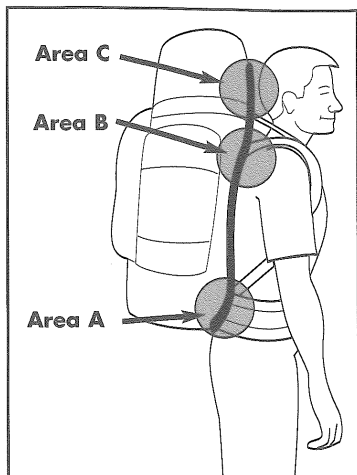

Figure 2J
G. When the waistbelt and shoulder straps are in the correct positions, walk around and notice how the pack feels against your back. The pack should conform to your back as in **Figure 2J**. Use the short evaluation below to ensure a great fit. Take notice of any pressure points, and troubleshoot them in the next section.